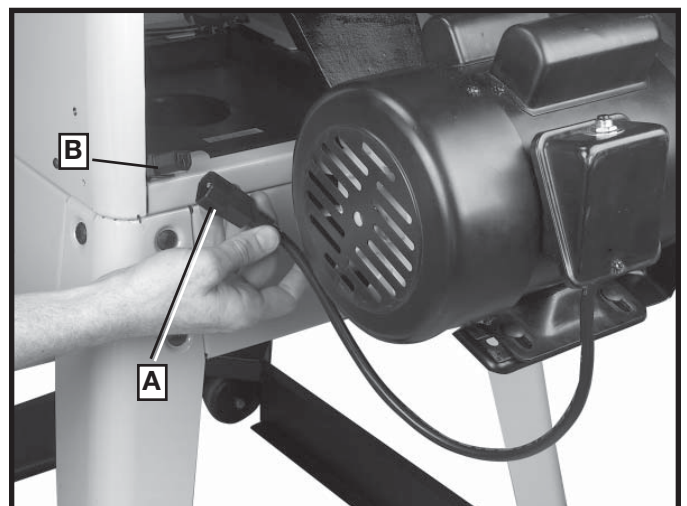

Fig. 41
Insert the pronged motor plug (A) Fig. 41, into the female receptacle (B) of switch-to-motor cord, which is located inside the saw housing.
WARNING MAKE SURE THE CORD RUNNING FROM THE SWITCH TO THE FEMALE END (B) FIG. 41 IS CLAMPED TO THE INNER WALL OF THE SAW UNIT AND WILL NOT COME IN CONTACT WITH THE BLADE OR ANY MOVING PARTS.